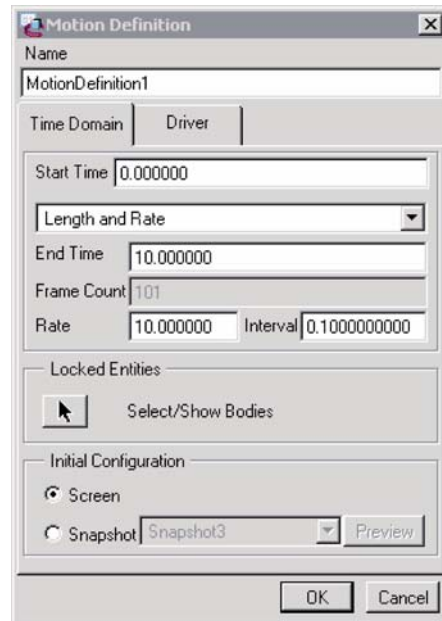

Figure 12-108: Motion Definition Dialog Box
Step 16: Select **OK** to accept the default settings on the Motion Definition dialog box (Figure 12-108).